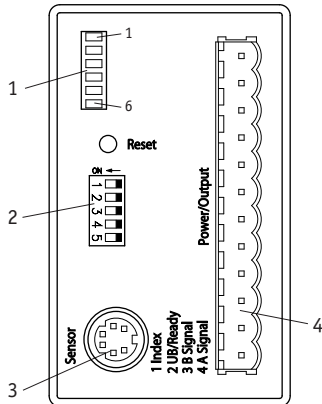

Fig. 4: AE510's front
sor into incremental output signals. These signals are issued speed-proportionally. **Please remember that even when the system stands still, there can be impulses of 1µs** (resulting from the internal interpolation method). The pulse distance can be changed by adjusting the DIP-switch (see Fig. 4). This change will influence the maximum travel speed directly (see Tab. 1).
During standard operation the status of the ready signal is "high". As soon as the max. admissible travel speed or the max. admissible gap between sensor and tape are exceeded, the error LED (fig. 4) comes on. No more output signals will be issued and the status of the ready signal will change to "low" (fig. 1 and 2). With switched off error function, the system will no longer recognize an exceeding of the max. admissible sensor/tape gap whereas an exceeding of the max. admissible travel speed is still detected.
Either manually by pressing the reset key on the AE510's front (fig. 4) or automatically by activating the signal on the reset input, eg. by a ground switching contact or a proximity switch (NPN, N.O.). After initialization the green Power LED (6) comes on; when the magnetic sensor is moved LEDs LED 1 and LED 2 start flickering.